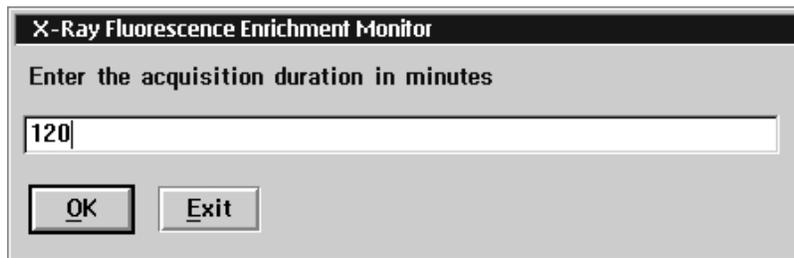

Figure 27. Message box that allows the user to enter a data acquisition time. Here the box contains a default value of 120 minutes.
6. A dialog box will then appear for the user to enter the acquisition time in minutes. Alternatively, the default value can be accepted as given. Select “OK” to continue. Figure 27 shows this dialog box with a value of 120 minutes. The value seen may be different from this. A value of 30 minutes may be sufficient for the 8-in. pipe. Minimize the time the detector is on the 8-in. process pipe because this is the hotter pipe and will cause more outgassing in the detector and detector resolution degradation.
In the event that the peak locations are incorrect or the areas are negative, the XRF software will present message boxes indicating these problems. Figures 41–44 indicate the most common error messages. Such a message could indicate that the measurement time was not long enough to get enough peak statistics, that the energy calibration is incorrect, or that there is no UF_6 gas in the header pipe. (Check with plant personnel to ensure there is gas in the header pipe.) Check the energy calibration again using the steps outlined in Section 2, above, and adjust if necessary. If the energy calibration is good, and gas is present, increase the counting time from within the XRF software, using the dialog box as shown in Figure 27.